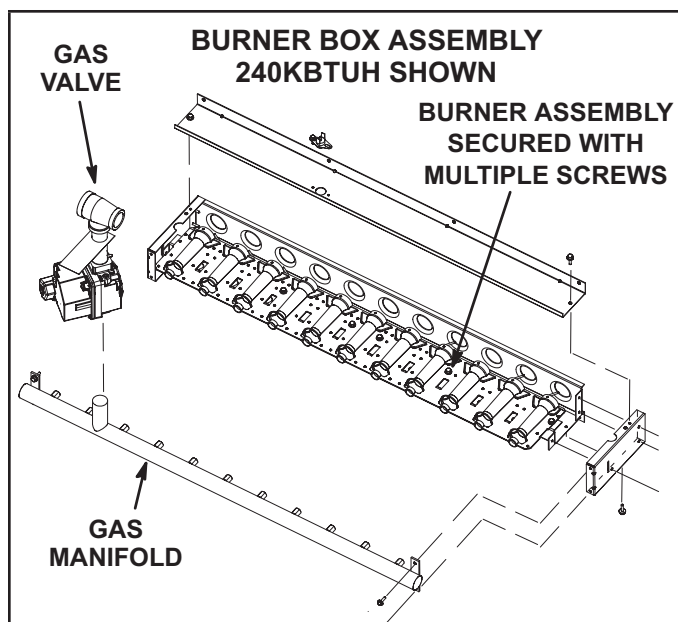

FIGURE 33
- 3 - Remove screws securing burner assembly to burner support and remove assembly. See FIGURE 33. Clean as necessary.